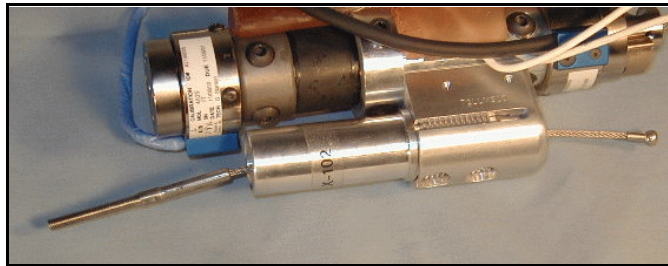

Figure 3.18 - Achilles Cable Installation
17. Pass the threaded end of the Achilles Cable assembly (T2LLM319) up through the Spring Tube Assembly from the bottom side, as shown in **Figure 3.18**.